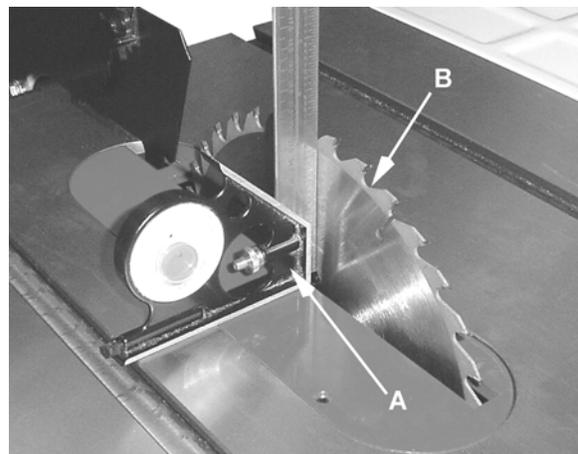

Figure 30
4. Place a square (A, Fig. 30) on the table and check to see that the blade (B, Fig. 30) is at a 90° angle to the table. Make sure that the square is not touching a blade tooth.